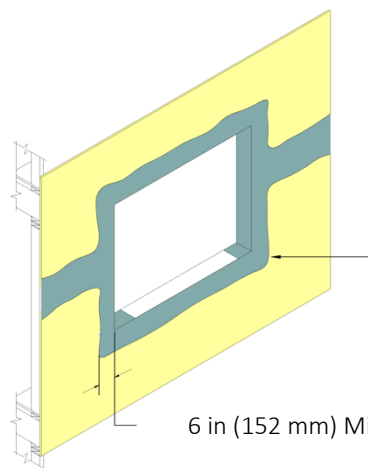

Figure 10
- 2) Using a stainless steel trowel apply Backstop NTX – Texture over the Grid Tape extending to the inside face of the opening and onto the face of the exterior sheathing a minimum of 6 in (152 mm) – Figure 10.